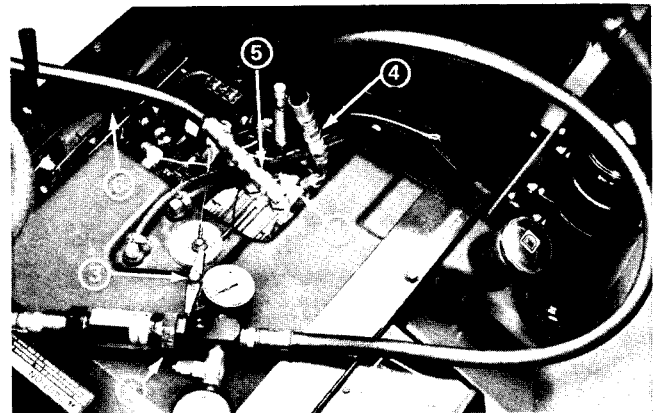

Figure 14
3. Put a drain pan below the transmission. Disconnect the hydraulic hose from the charge pump outlet (pressure) fitting on the transmission (Fig. 14).